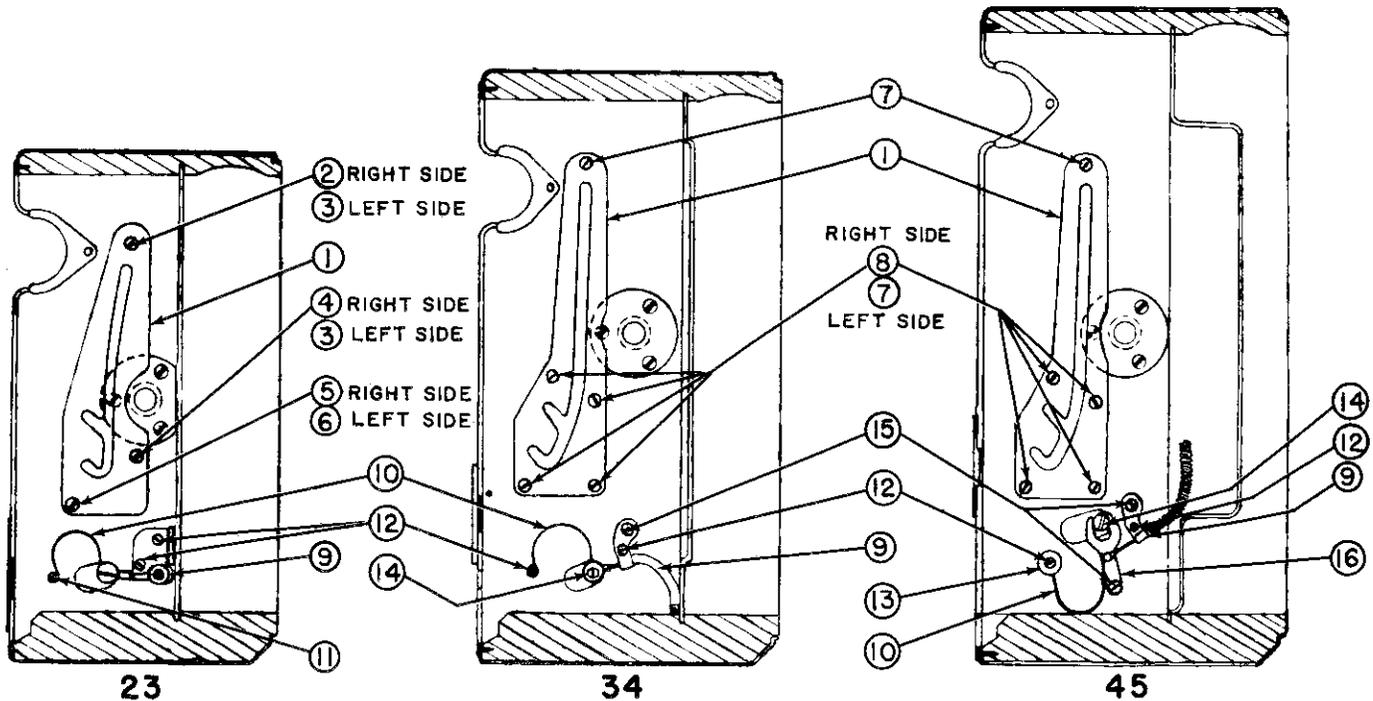

Figure 11. Right Bed Brace Plate and Cable Release Mounting
7. Cable Release Replacement. Attach the cable release assembly (4) as follows:
- (a) On "23" cameras: Attach the cable mounting clip with two wood screws (12). Place the large loop end of the spring (10), as shown in figure 11, over the stud of the body release lever, which extends inside the case, and retain by securing the end of the cable to the stud with machine screw (14). Secure the small loop end of spring (10) to camera body with wood screw (11).
- (b) On "34" cameras: Follow the same procedure as for the "23" camera. Refer to illustration in figure 11.
- (c) On "45" cameras: Attach the cable mounting clip with wood screws (12 and 15). Position the fork of the cable release lever (16) around the stud of the body release lever, which extended inside the case, and assemble the lever mounting screw (15) at the bottom of the cable release lever. Assemble the special block screw (14) to secure the lever fork in position with the body release lever stud. Assemble the washer (13) through the wood screw (12) and anchor the large loop end of the spring (10) as shown in figure 11.
(b) Remove the right and left bed brace plates (1, figure 11) that are secured by screws as illustrated in figure 11.
(c) On "23" cameras: Attach the left bed brace plate (1, figure 11) with one wood screw (3) at the top, screw (3) at the side and screw (6) at the bottom. Attach the right bed brace plate with one wood screw (2) at the top and one wood screw (4) at the side and screw (5) at the bottom.